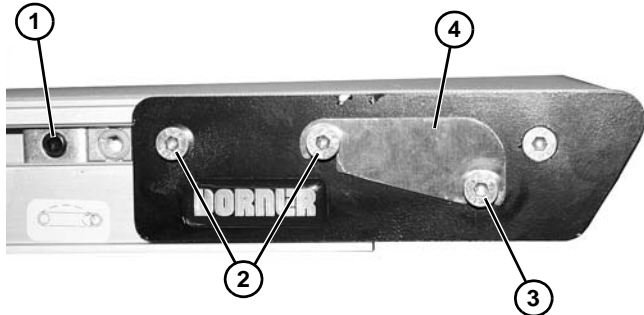
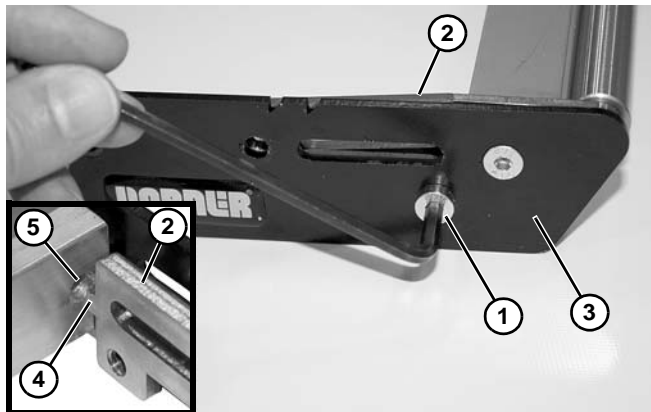

Figure 98
Figure 99
1. On both sides of conveyor, loosen cam fastening screw (**Figure 98, item 1**) (if equipped) and slide cam assemblies toward the center of the conveyor.
2. On both sides of conveyor, loosen fastening screws (**Figure 98, item 2**) to remove belt tension. Remove belt from end of conveyor.
3. On both sides of conveyor, loosen fastening screw (**Figure 98, item 3**) and remove dust cover (**Figure 98, item 4**) (if equipped).
4. Remove nosebar tail from the conveyor and place on an open work surface. On one side of nosebar tail, remove two fastening screws (**Figure 98, item 2**).
5. Remove lower screw (**Figure 99, item 1**) and remove tail nut bar (**Figure 99, item 2**) and side plate (**Figure 99, item 3**).
During reassembly, make certain that the tail nut bar nipple (**Figure 99, item 4**) is inserted into the support bar hole (**Figure 99, item 5**).
10. Assemble and install head plate in reverse order of removal. Use a 4 mm hex-key wrench to tighten lower screw (**Figure 99, item 1**) to 30 in-lb (3.4 Nm). Leave two fastening screws (**Figure 98, item 2**) loose for belt tensioning.